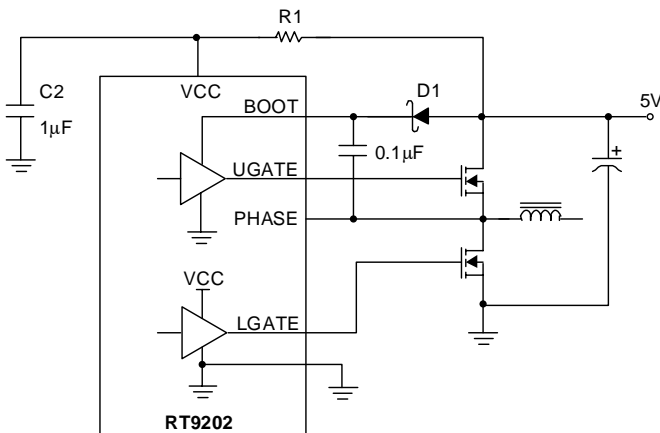

Fig.1 Single 5V power Supply Operation
In a single power supply system, the UGATE driver of RT9202 is powered by an external bootstrap circuit, as the Fig.1. The boot capacitor, C_{BOOT} , generates a floating reference at the PHASE pin. Typically a $0.1\mu F$ C_{BOOT} is enough for most of MOSFETs used with the RT9202. The voltage drop between BOOT and PHASE is refreshed to a voltage of $V_{CC} - \text{diode drop}$ (V_D) while the low side MOSFET turning on.
The over current protection (OCP) function of the RT9202 is triggered when the voltage across the $R_{DS(ON)}$ of upper side MOSFET that developed by drain current exceeds over-current tripping level. An external resistor (R_{OCSET}) programs the over-current tripping level of the PWM converter. As shown on Fig.1, the internal $40\mu A$ current sink (I_{OCSET}) develops a voltage across R_{OCSET} (V_{SET}) that is referenced to V_{IN} . The DRIVE signal enables the over-current comparator (OC). When the voltage across the upper MOSFET ($V_{DS(ON)}$) exceeds V_{SET} , the over-current